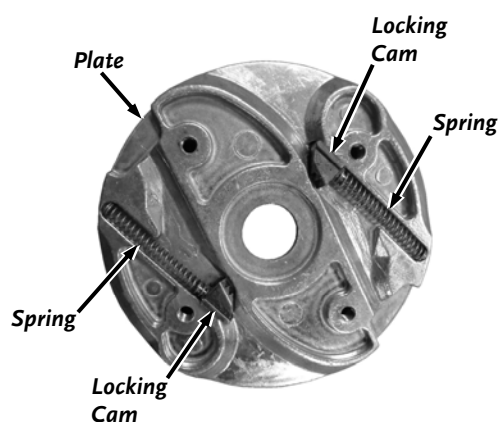

Figure 11
6. Reinstall the Springs and Locking Cams into the middle and bottom Plates (**Figure 11**).